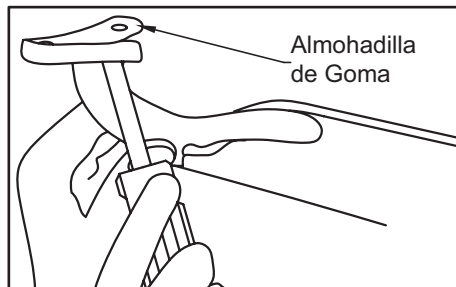

Figura 10
3. Fasten the blade assembly to the motor using the screws supplied (Figura 10).